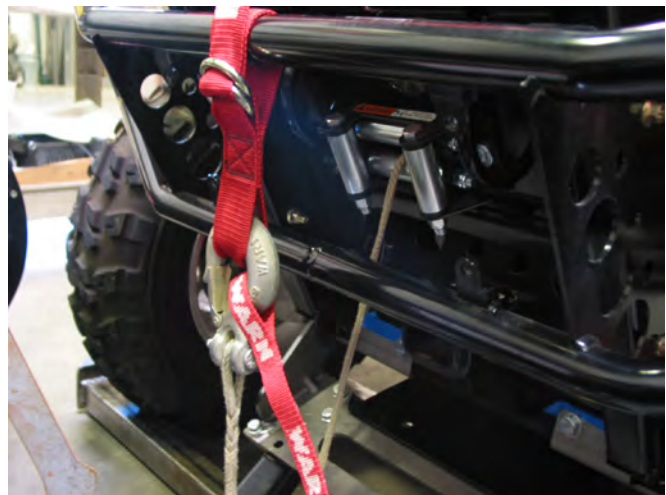

Figure 9
7. Pull the retaining pin on the plow assembly that is securing the pulley assembly. With the pulley assembly loose, place the pulley assembly over the winch line and reinstall the pulley assembly onto the push tube assembly securing the pulley assembly with the retaining pin. See "Double Line Rigging" in the Plow Lift section of the Plow Operators Guide. Figure 9.
9. Hook the winch line to the loop on the termination strap. See Figure 9.